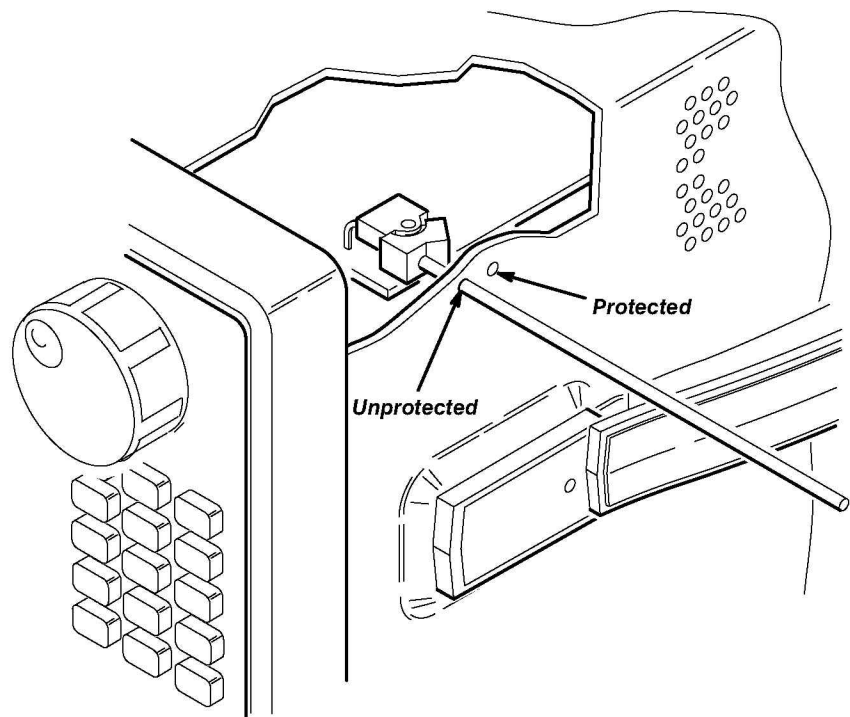

Figure 5-1: Accessing the Protection Switch
- a. Locate the two small access holes on the right side of the oscilloscope cabinet near the front. (See Figure 5-1.)